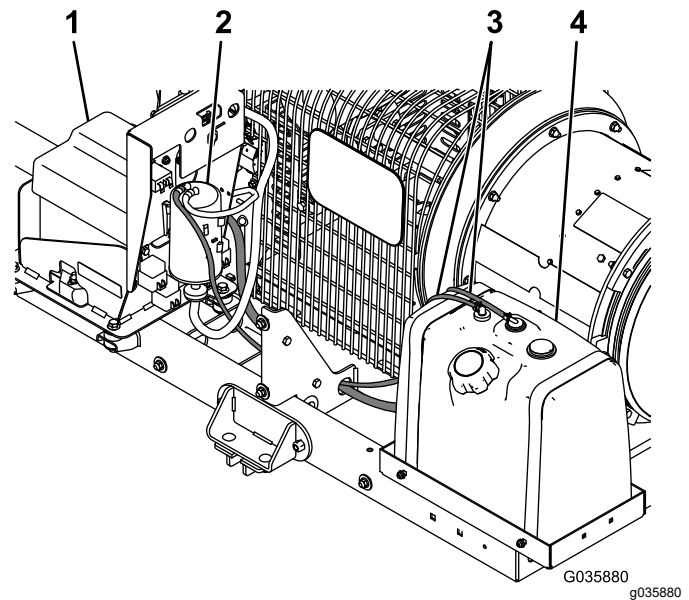

Figure 1
5. Disconnect the fuel tank hoses from the machine and discard them (Figure 1).
6. Remove the fasteners and straps securing the fuel tank to the machine and discard them along with the tank (Figure 1).
7. Disconnect the remaining hoses from the carbon canister (Figure 1).
8. Remove the battery cover and battery (Figure 1); refer to your *Operator's Manual*.
9. Remove the carbon canister and discard it (Figure 1).